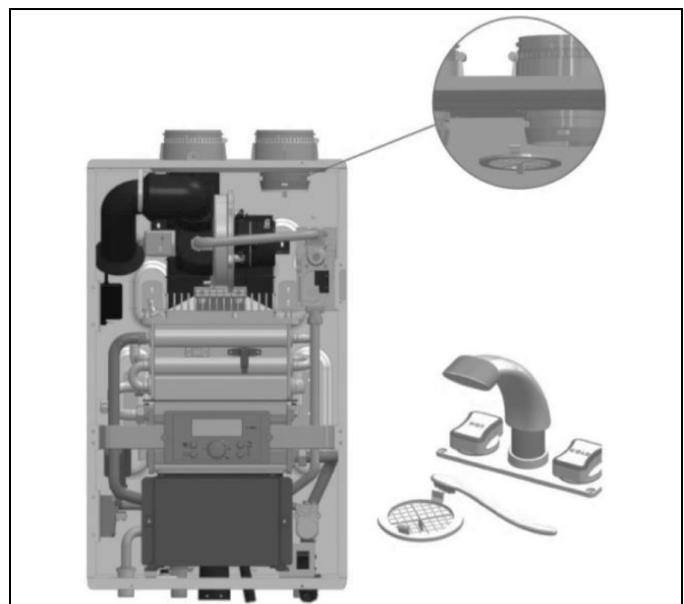

Figure 54 - Cleaning the Air Intake Filter
6. Remove the filter from the plastic assembly and clean it with a toothbrush and clean running water. See Figure 54.